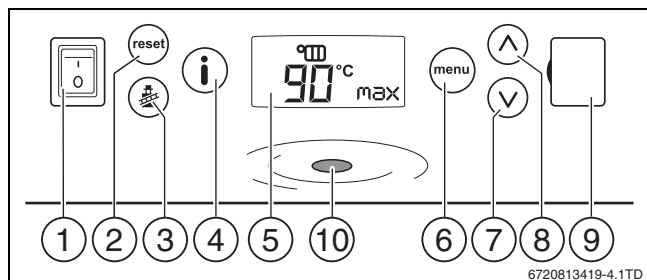

Fig. 5 Control panel
- ▶ Put the on/off switch to position "1" (→ figure 5, [1]).